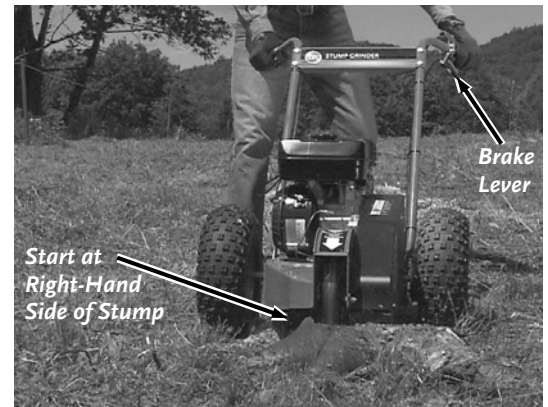

Figure 30
3. Move the PRO XL-SP STUMP GRINDER into position with the Cutter Head at the right side of the stump on the edge closest to you (not touching) near the top edge (**Figure 30**).